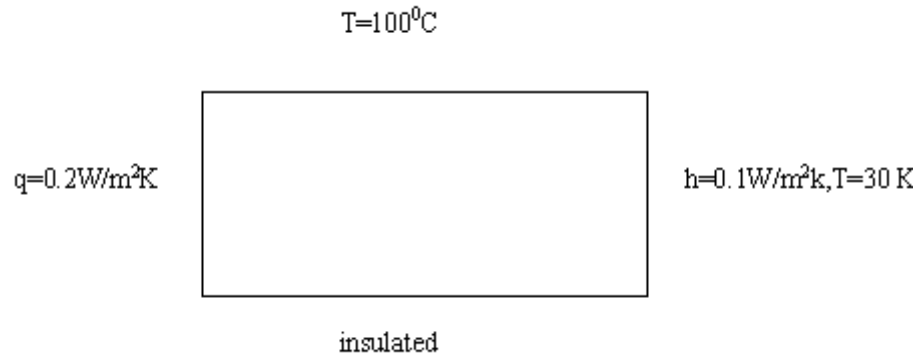

Figure 3:
6. Determine the temperature distribution for the plate as shown figure 3. [16]